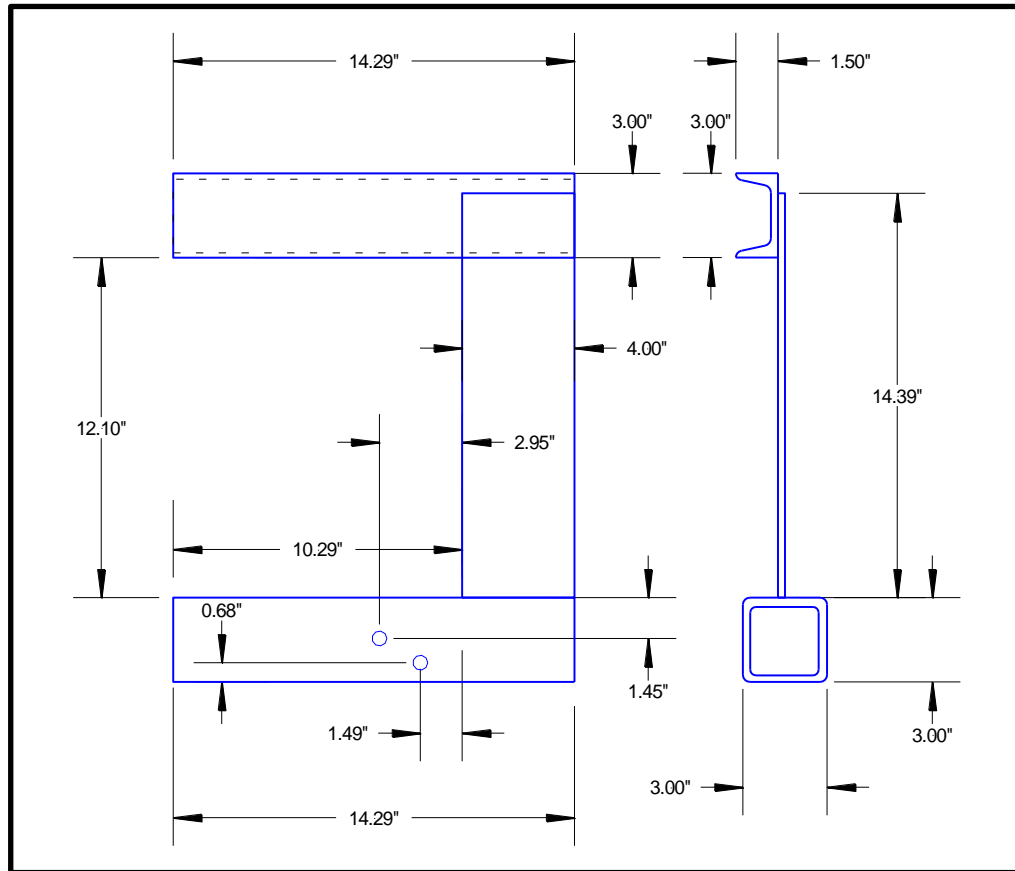

Figure 9 ILFP slide rail mounting fixture
- 1) Build two (2) mounting fixtures like shown in Figure 9. Use 3"x3"x.25" tubing. Assure that the holes are in EXACT location as otherwise the slide rails will be off and the gate might not work properly.
- 3) Connect the slide rails to the mounting fixture by using (2) 3/8" bolts and nuts.